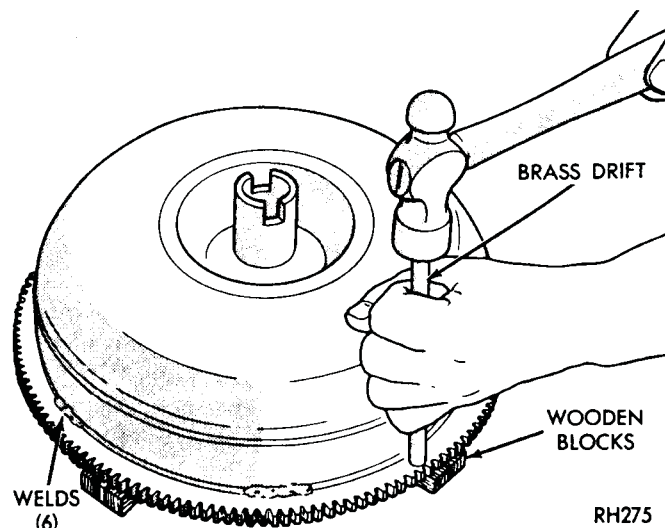

Fig. 2—Remove Starter Ring Gear (Nonlock-Up Only)
(1) Cut through weld material at rear side of ring gear with a hack saw or grinding wheel (Fig. 2). Be careful not to cut or grind into front cover stamping.
(2) Scribe a heavy line on the front cover next to front face of ring gear to aid in locating the new gear.
(3) Support torque converter on front cover, next to the lugs with blocks of wood to prevent altering lug position. The torque converter must **not** rest on the front cover hub during this operation. Using a blunt chisel, or drift and hammer, tap downward on ring gear near welded areas to break any remaining weld material (Fig. 2). Tap around ring gear until it comes off the torque converter.
(4) Smooth off weld areas on the cover with a file.